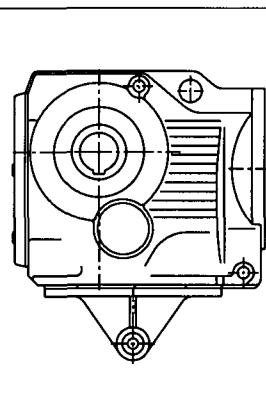

Fig. 6 B side connection is mirrored to that of A mounting
- helical-bevel gear units as shown in Fig. 6